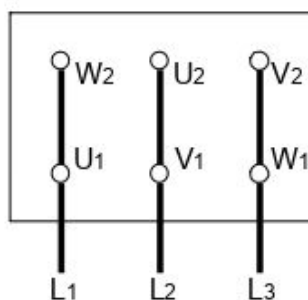

Fig. 10a. Δ - connection
- The mains connection on the tagboard depends on the nominal power of the motor, the power supply and the type of connection. The necessary connection of the bridges in the terminal box is shown in the following (Table 1. and Fig. 10a, 10b, 10c).